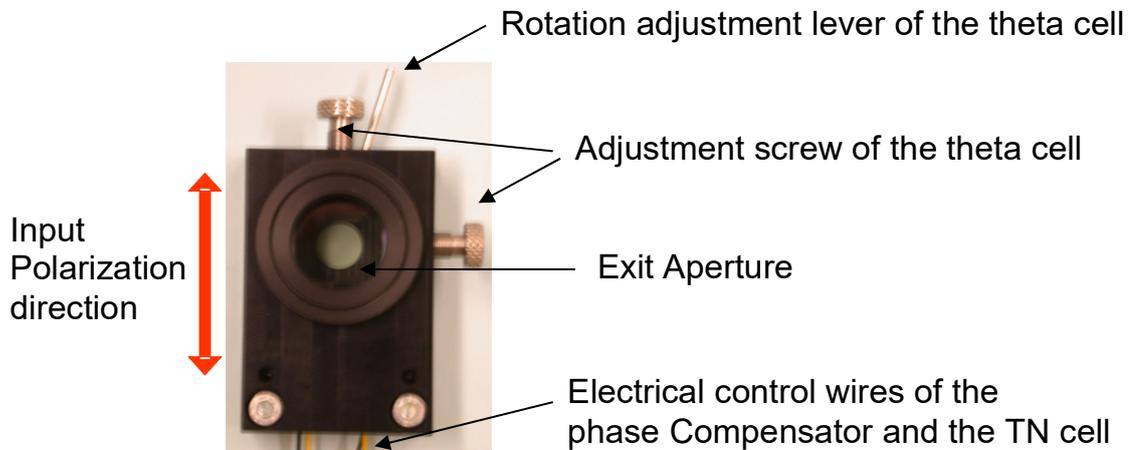

Figure 4: The liquid crystal polarization converter in its final housing. The clear aperture is 10 mm.
The complete system (polarization converter + TN cell+ variable phase Compensator (retarder or shifter) is integrated into an aluminum housing as shown in figure 4. The polarization converter can be rotated and translated with respect to the TN cell and the phase compensator with the rotation lever and the x-y adjustment screws. Two wires must be connected to a conventional labor AC power supply for setting the adequate phase retardation depending of the used wavelength and to the two other wires must be connected to a second power supply capable to switch between 0 and (at least) 5V (see electrical connection section).
Notice that in figure 4 the polarization converter (between polarizers) is illuminated with white diffuse light. If the system is illuminated with a collimated coherent laser beam the defect line ( $\pi$  phase step) of the theta cell produces a diffraction pattern (low intensity line in the center) that disturb the intensity profile at the output of the system (see figures in the alignment section). This line disappears when an additional phase compensator is inserted in the system to compensate the  $\pi$  phase shift of the theta cell. A further spatial filter after the polarization converter may be used to clean up some residual inhomogenities in the intensity profile.
- 3) **Make sure that the incoming light is linearly polarized and correctly oriented with respect to the device (see figure 4**
- 7) Rotate and translate the theta-cell with the rotation lever (should be very close to the vertical position) and the x-y translation screws (see figure 4) until the two lines are perfectly superposed and with the CCD camera you observe only one line as shown in figure 7C. Notice that it is possible that the two lines already superpose, move x-y to check this.
- 1) **Is the input light polarized and the polarization along the housing as indicated in the manual Fig.4?**